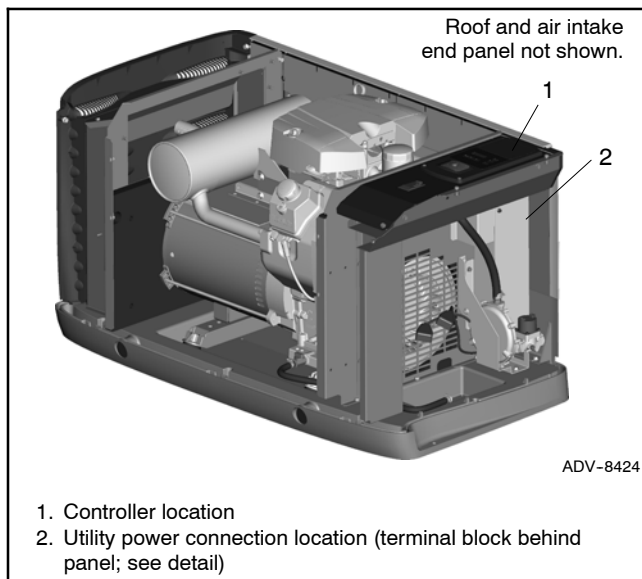
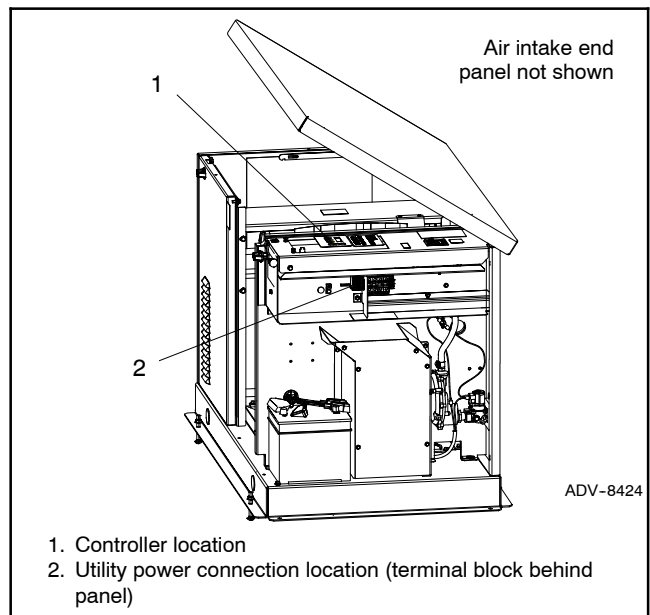
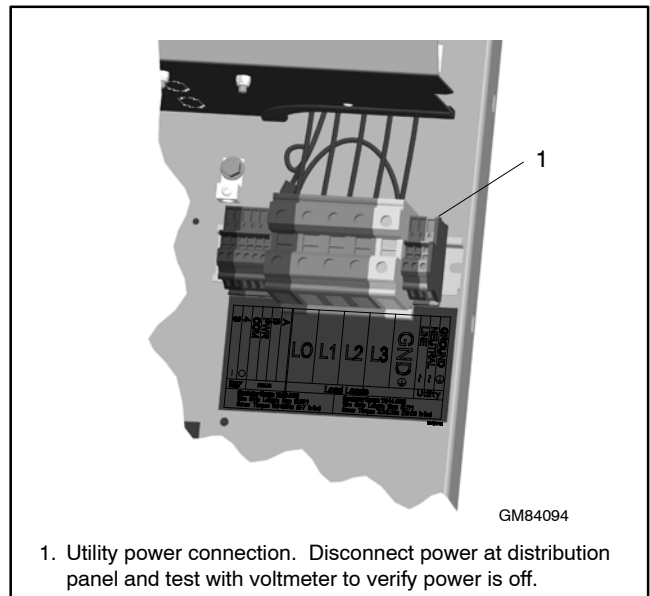

Figure 4 Controller and Utility Power Connection Locations, 14/20RESA/RESAL
Figure 5 Controller and Utility Power Connection Locations, 20RESB
Figure 6 Power Connection Detail (RESA shown)
- c. Use a voltmeter to verify that utility power to the generator has been disconnected. See Figure 4 (14/20RESA/L) or Figure 5 (20RESB) for the utility power connection location. See Figure 6 for the power connection detail on the generator set terminal block.